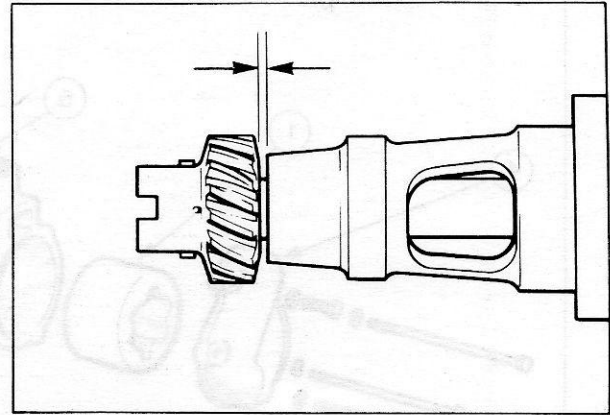

Fig. 6 - Gear to Pump Body Clearance
2. Press the gear onto the shaft until a clearance of 0.13 to 0.38 mm (0.005 to 0.015 in.) is obtained between the gear and the pump body, with the rotor flush with the end plate face (Fig. 6).
2. Press the gear onto the drive shaft end until there is a clearance of 0,178 to 0,305 (0,007 to 0,012 in.) between the gear and pump housing (Fig. 6).